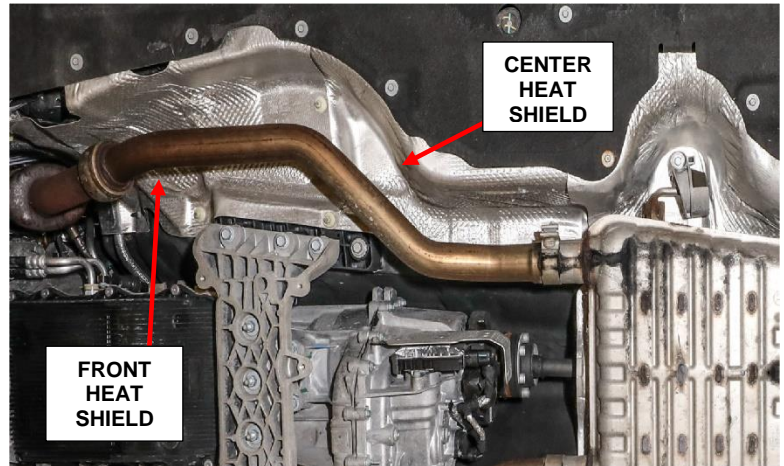

Figure 3 – Front and Center Heat Shields
8. Remove the left side front and center heat shields (Figure 3).